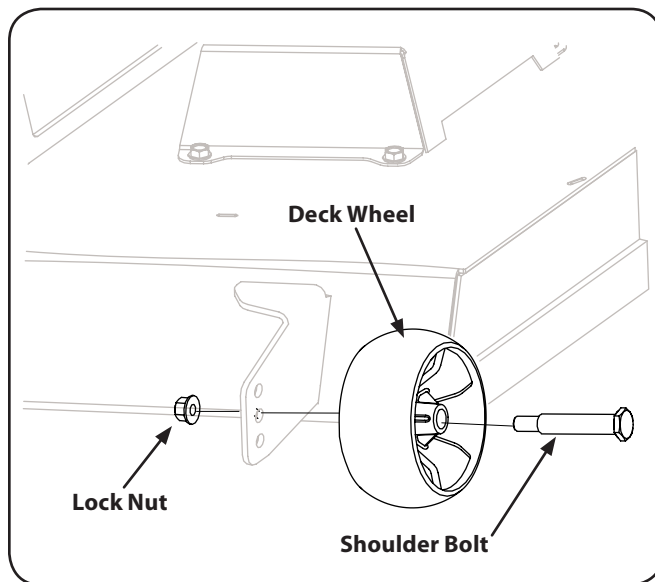

Figure 6-9
- b. Remove the front and rear deck wheels by removing the lock nuts and shoulder bolts which secure them to the deck. See Fig. 6-9.